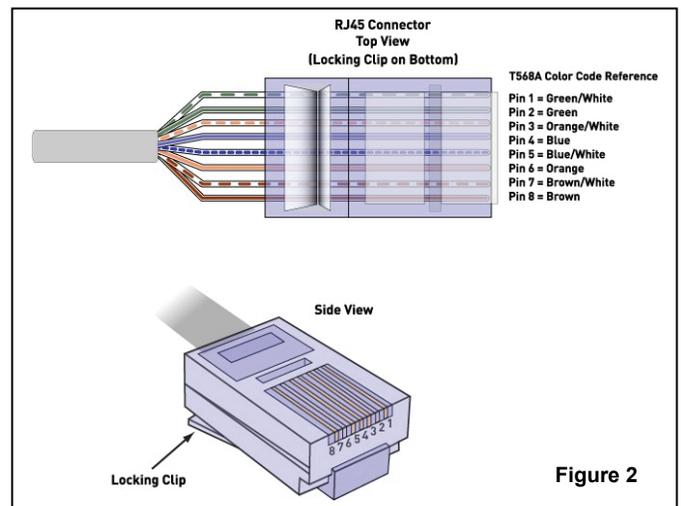

Figure 2
2. Terminate the Category 5 cable at each end with an RJ45 plug following the T568A wiring standard shown in **Figure 2**.